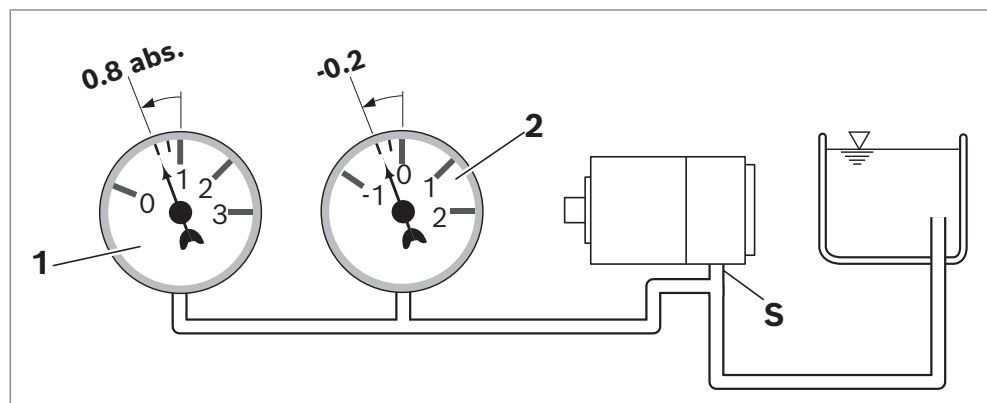

Fig. 5: Suction pressure for axial piston pump
- ▶ Make sure that a minimum suction pressure of 0.8 bar absolute is present at port **S** during operation for all installation positions and installation locations of the axial piston pump; see Fig. 5. See product-specific data sheet for further pressure values and conditions.